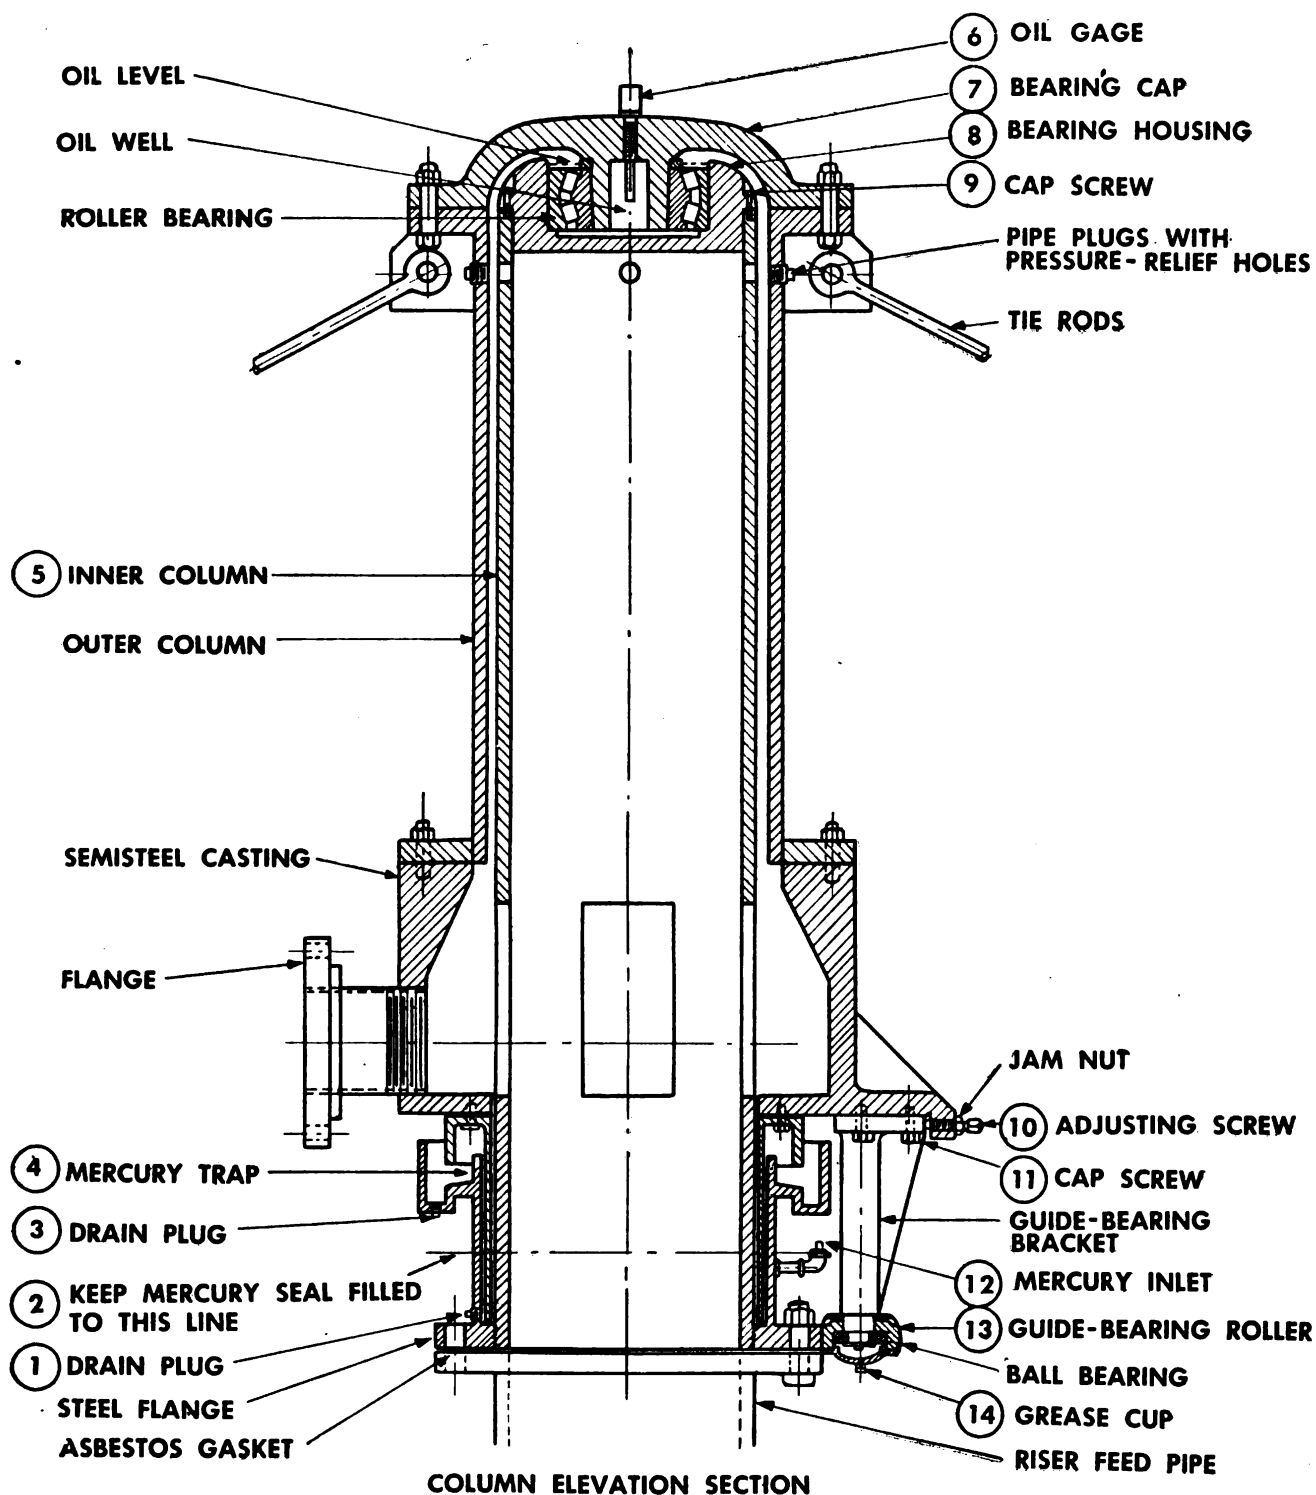

Figure 32. Chain-belt rotary distributor.
65. Chain-Belt Reaction and Motor-Driven Disc Type Units (figs. 32 and 33)
a. **LUBRICATE CENTER-COLUMN BEARING.** The bayonet type oil gauge (No. 6, fig. 32) screwed into top of bearing cap is marked to indicate minimum oil level for bearing chamber. Fill bearing chamber with oil that does not thicken at lowest prevailing temperature. In most sections OE 10 is satisfactory. Check oil level in bearing chamber.
b. **INSPECT OIL.** Inspect condition of oil in chamber. Drain and replace with fresh supply if necessary. Change oil as follows (key numbers refer to fig. 32) :
(1) Block up outer end of all branches to relieve strain on bearing.
(2) Remove bearing cap (7), unscrew cap screws (9) which fasten bearing housing (8) to inner column (5), and remove bearing housing.
(3) Pour out oil and wash and clean entire bearing assembly.
(4) Reassemble; before replacing bearing cap, make sure no dust or other foreign material has entered bearing.